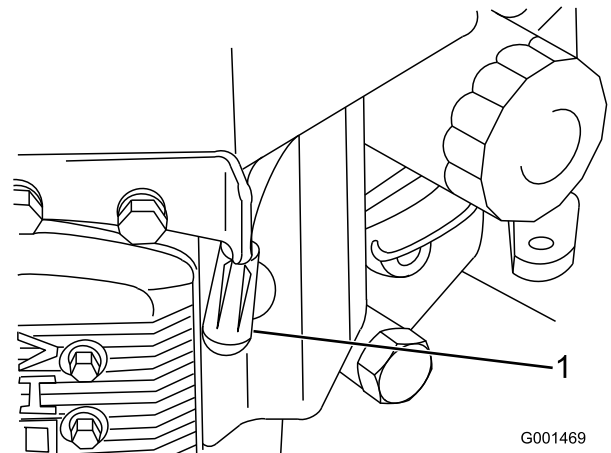

Figure 26
3. Disconnect the wires from the spark plugs (Figure 26).